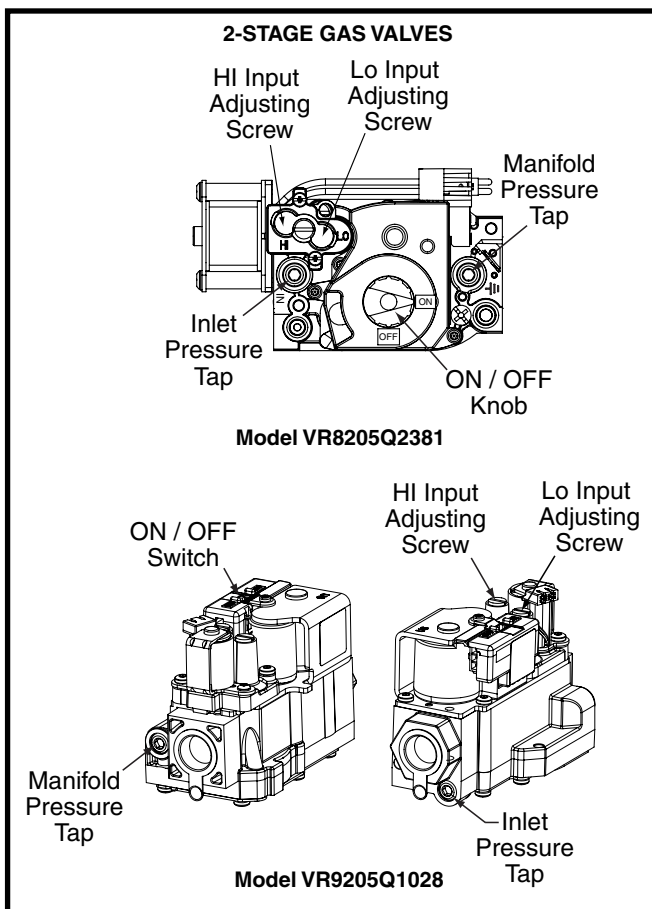

Figure 22. HI & LO Input Adjusting Screws
- c. Using an Allen wrench, turn the the LO Input Adjusting Screw on the LO side of the regulator to adjust the reduced input setting or turn the HI Input Adjusting Screw on the side of the regulator to adjust the full input setting. See Figure 22 \(page 23\).